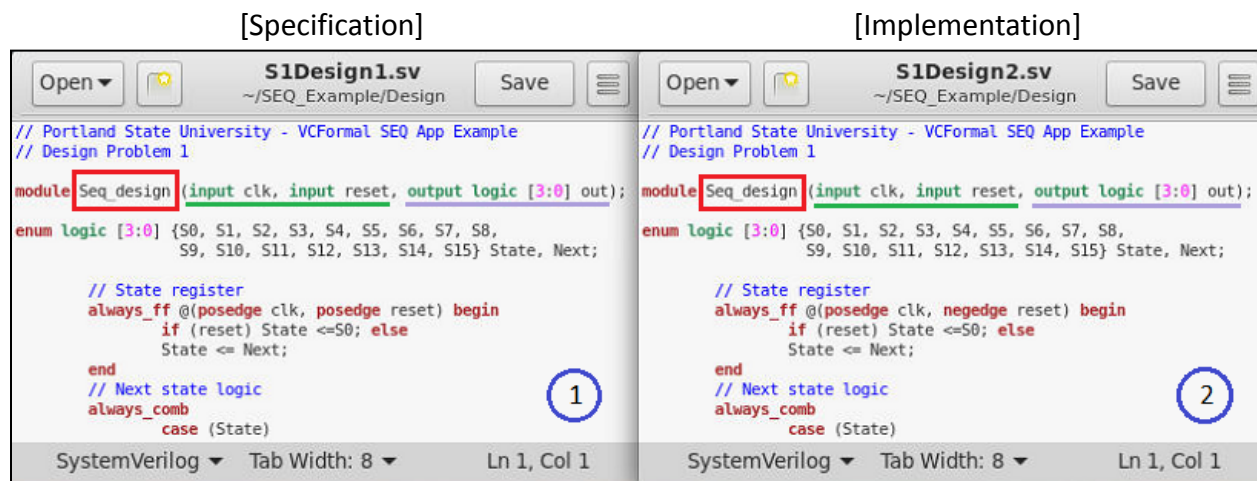

Figure 2. Showing the two example designs with same input and output module names.
- (1) S1Design1.sv (Specification file)
- (2) S1Design2.sv (Implementation file)
The two designs in Figure 2 above are identical, besides the negative edge triggered reset in the **always_ff** block in the implementation design (2). Later, you will see the effects this will have in our simulation.